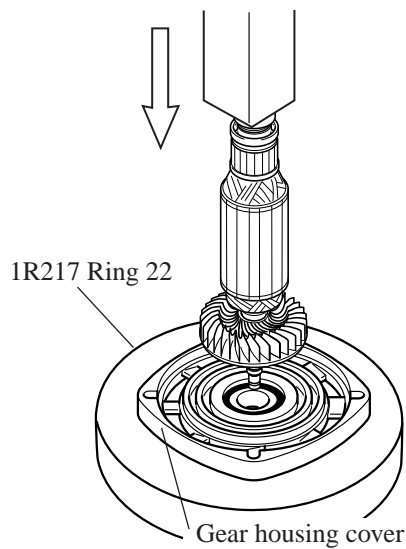

Fig. 2
- (1) Put gear housing over on No.1R217 "ring 22", and assemble armature to gear housing cover by pressing with arbor press as illustrated in Fig 2.